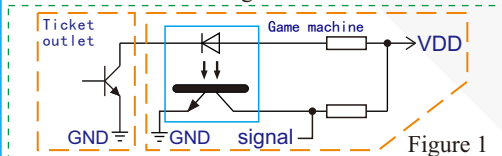

Figure 1
- 1.The output signal circuit of the ticket outlet is triode collector or MOS drain open circuit output mode. When it is used,users are advised to use optocouplers to receive signals when designing the interface circuit (see Figure 1).